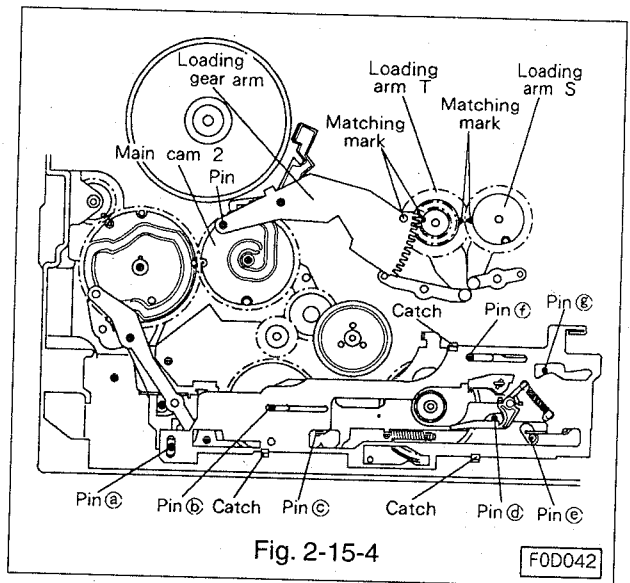
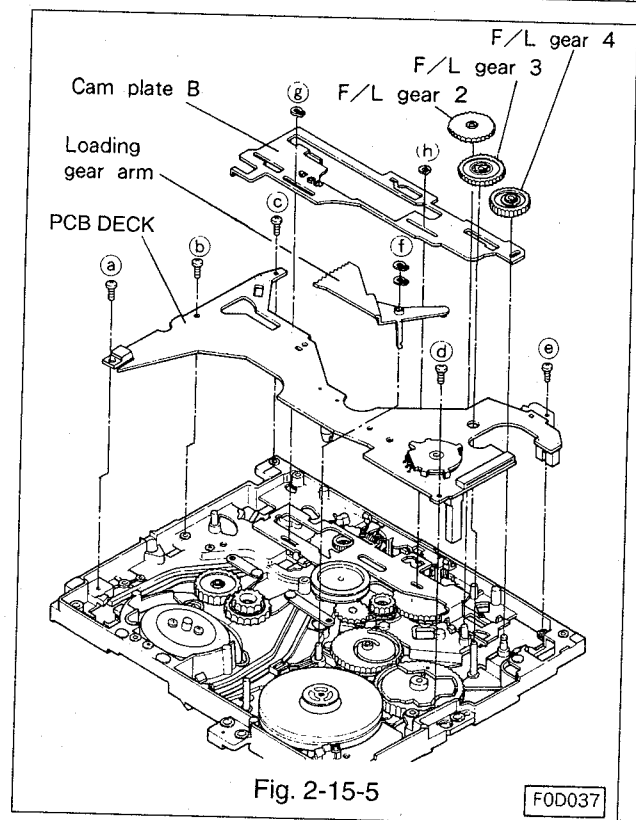

Fig. 2-15-4
Fig. 2-15-5
- J. Install the cam plate B so that the plate matches pins (a ~ g) as shown in Fig. 2-15-4, especially pin (e), and secure the plate with three clamps, cut washer (pin (b)) and grip ring (pin (f)).
- K. Line the matching mark of loading arm T with that of the loading gear arm as shown in Fig. 2-15-4, and assemble the loading gear arm to the shaft so that the pin of the loading gear arm enters the groove of the main cam 2. Secure the arm with two grip rings (f). (Refer to Fig. 2-15-5.)
- L. Assemble the F/L gear 2, 3, and 4 to the shafts as shown in Fig. 2-15-5.